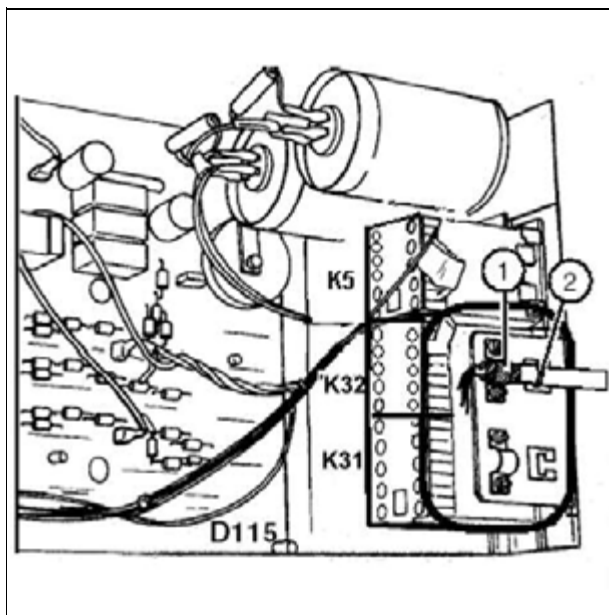

Fig. 44: POLYDOROS SX 65/80
- Clamp the shielding braid of the cable to the right side of the starter under the upper clamping clip (1/Fig. 44 / p. 41).
- Use cable ties (2/Fig. 44 / p. 41) to relieve cable tension.